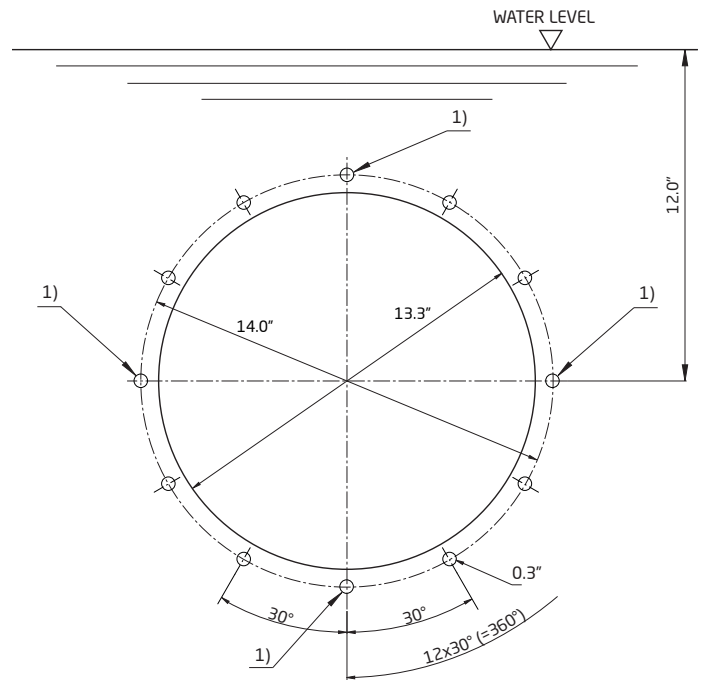
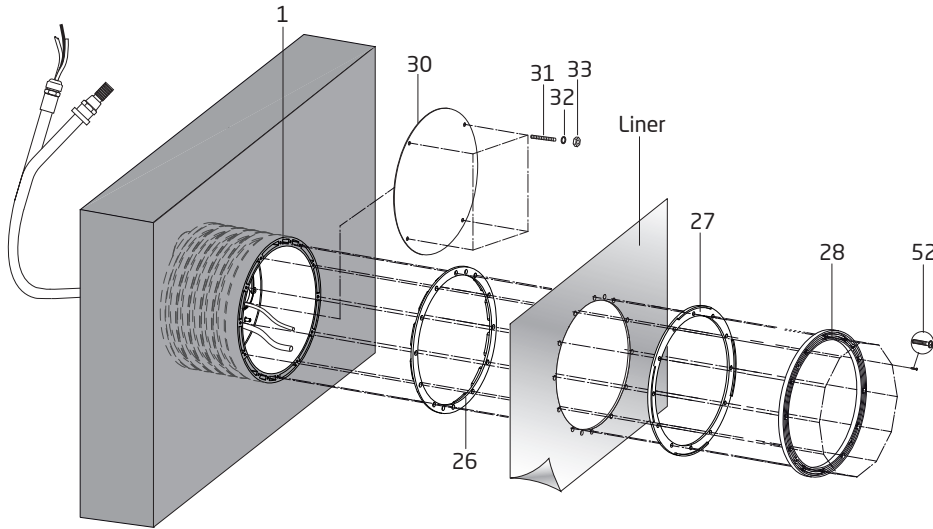

Figure 5
Figure 7
- Create formwork for the jet housing using Figures 5 & 6.
- Drill the four M8 holes marked (1) in Figure 5 in the formwork for the inner pool wall. Cut a 14.5" hole in the formwork for the outer pool wall. **CAUTION:** The center of the jet housing **MUST BE** mounted 12" **BELOW** the water line as shown in Figures 5 & 6
- Install the four (4) M8 x 80mm gunitite cover studs (part #31) in the front of the jet housing. They should be in the same position as the holes marked (1) in Figure 5. Slide the gunitite cover (part #30) over the studs. Tape the edge of the gunitite around the entire jet housing to keep concrete out of threaded inserts and out of the jet housing.
Use the provided mounting template (*small scale version of template shown in Figure 5*) to mark and drill the holes through the liner (twelve (12) M8 clamping ring screw holes and 13.3" center hole). Insert the gasket with knobs in the front of the jet housing (part# 26). Install the liner with the holes aligned to the jet housing. Align clamping ring (part# 28) and place the clamping ring gasket (part# 27) and install using the twelve (12) M8 x 30 clamping ring screws (part# 52). (See Figure 7)
Use the template in Figure 5 to mark and drill the holes through the liner (twelve (12) M8 holes and center 14" hole). Insert the gasket with knobs (part# 26) in the front of the jet housing. Install the liner with the holes aligned with the jet housing. Install the clamping ring (part# 28) and clamping ring gasket (part# 27) using the twelve (12) M8 x 30 clamping ring screws. (*See Figure 7*)